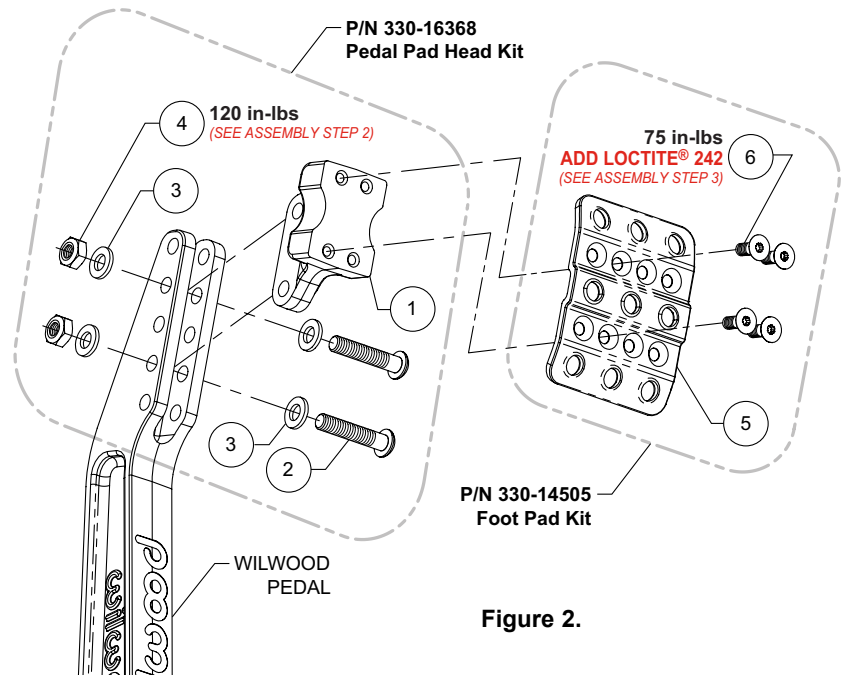

Figure 2.
STEP 1 Install the pedal pad head (1) into the “fork” of the pedal arm in the desired location as shown in Figure 2. Secure in place using bolts (2), washers (3), and locknuts (4).
STEP 2 Torque locknuts (4) to value indicated in Figure 2.
STEP 3 Orient foot pad (5) as shown in Figure 2. Pad may be installed in three different positions as shown in Foot Pad Detail of Figure 1b. Secure to pedal head (1) using four T-20 drive Torx screws (6). Apply blue *Loctite*® 242 to the threads and torque to value indicated in Figure 2.
STEP 4 Screw the clutch pedal stop bolt (7) into jam nut (8) and then into the clutch pedal, not shown. **NOTE:** Final adjustment of stop bolt will be performed after pedal installation in vehicle.